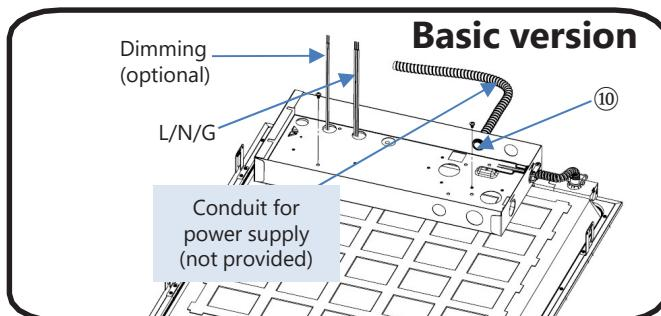
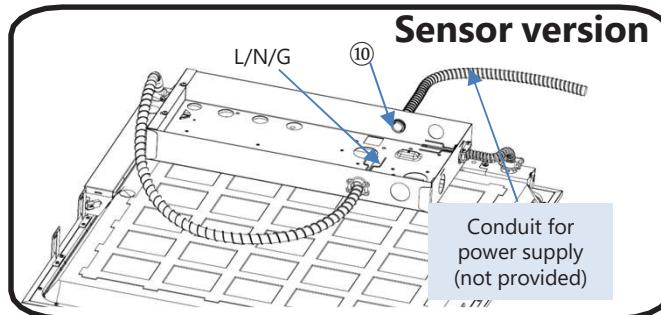

Fig 11
Fig 12
Install the conduit and its fitting on an appropriate knockout ⑩ or others knockout for power supply. See Fig 11 and Fig 12.